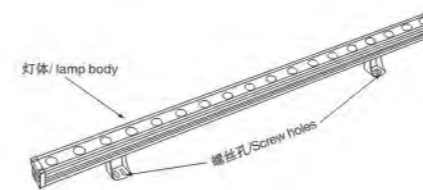

图 1/Picture 1
- 1、用螺丝将固定件固定到墙上, 如图1所示。
1. Will be fixed by screws is fixed to the wall, as shown in figure 1.